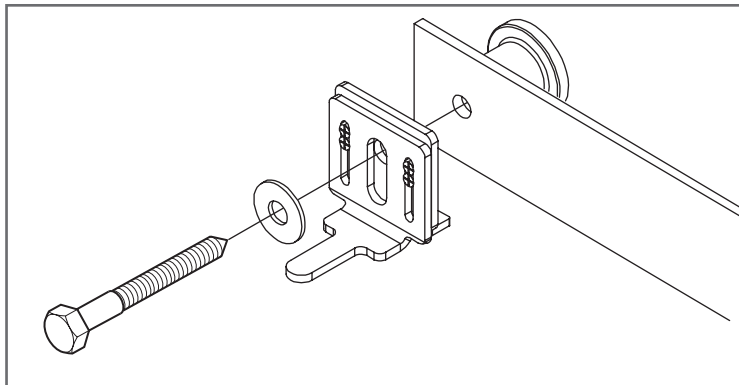

Figure 2
5. For existing tracks with door stops (H), ensure the door stop is installed on the side the door will lock. For new tracks, select the side the door will lock and install the door stop using the lag bolt and washer provided with the track system (Figure 2).